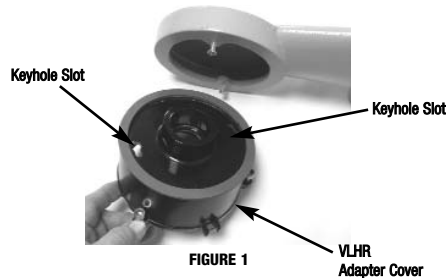

FIGURE 1
Pull wires through the center opening in the VLHR adapter cover. Slip the keyhole slots in the VLHR adapter cover over the two (2) screws in the mounting module (see Figure 1). Rotate the VLHR cover and snug each screw. Torque each screw to 20 lb.-in. (2.3 N-m).